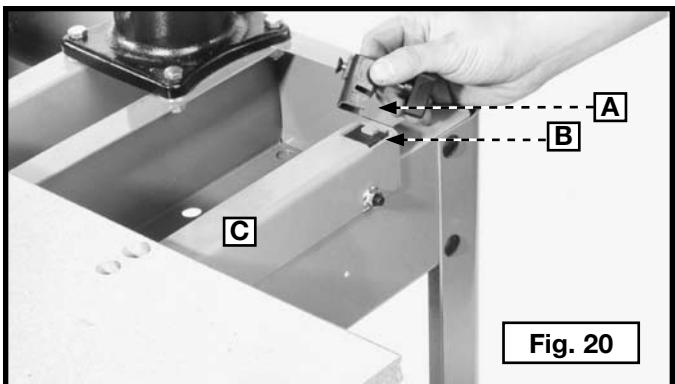

Fig. 20
1. Locate the table board clamps (A) Fig. 20. Insert one clamp into each of the slotted holes (B) located at the rear of each table support bracket (C) Fig. 20.